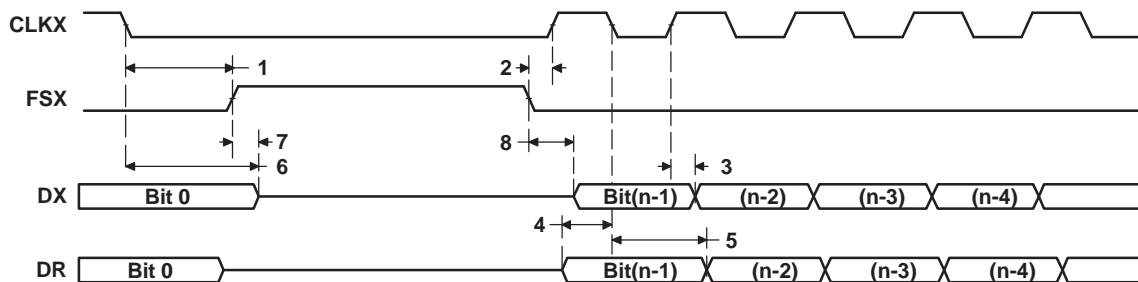

Figure 6-27. McBSP Timing as SPI Master or Slave: CLKSTP = 10b, CLKXP = 0
(see Figure 6-27)
(see Figure 6-27) (continued)
Table 6-44. Switching Characteristics Over Recommended Operating Conditions for McBSP as SPI Master or Slave: CLKSTP = 10b, CLKXP = 0 ^{(1) (2)} (see Figure 6-27)